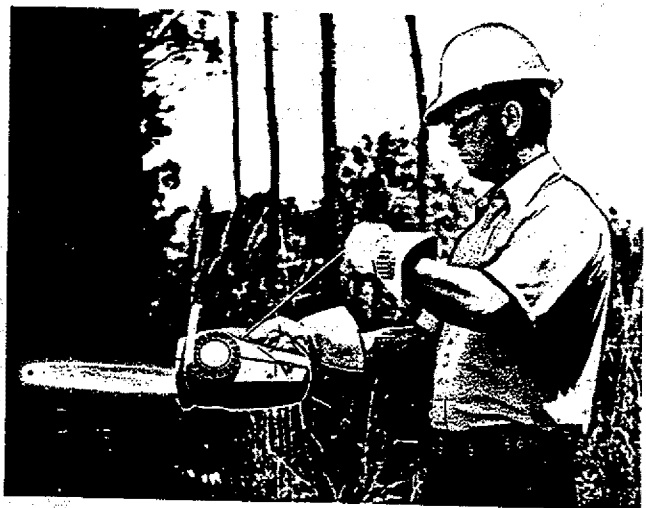

Fig. 5
4. **STARTING** (This is the recommended starting position) See Figure 5.
Hold saw away from body with right hand and elbow slightly bent, see Fig. 5. Squeeze trigger. Push saw straight away from body and at same time pull starter handle. Repeat action until engine fires. Push choke off (to left) and repeat starting procedure until engine runs. Hold on to starter handle while allowing the rope to rewind.